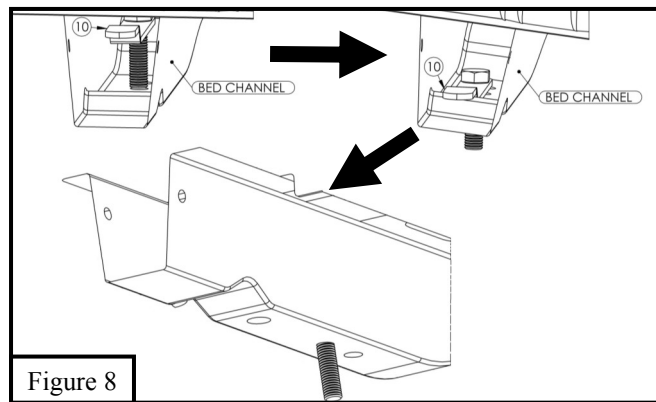

Figure 8
- Locate (1) M12 bolt plate (Item 10) and insert through opening of bed channel and insert the M12 bolt through the hole. See **Figure 8**.